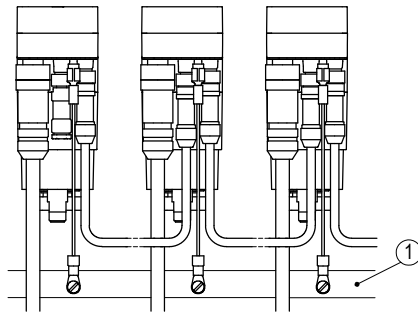

Fig. 5: Ground bar
Apply the PE connection (4) to the protective conductor potential below the connecting plugs (see fig. 4). Use 6,3 mm flat connectors with short strands 2,5 mm2 ... 4 mm2 (not in the scope of delivery). For multiple actuators we recommend connecting the earthing to a ground bar (see fig. 5).